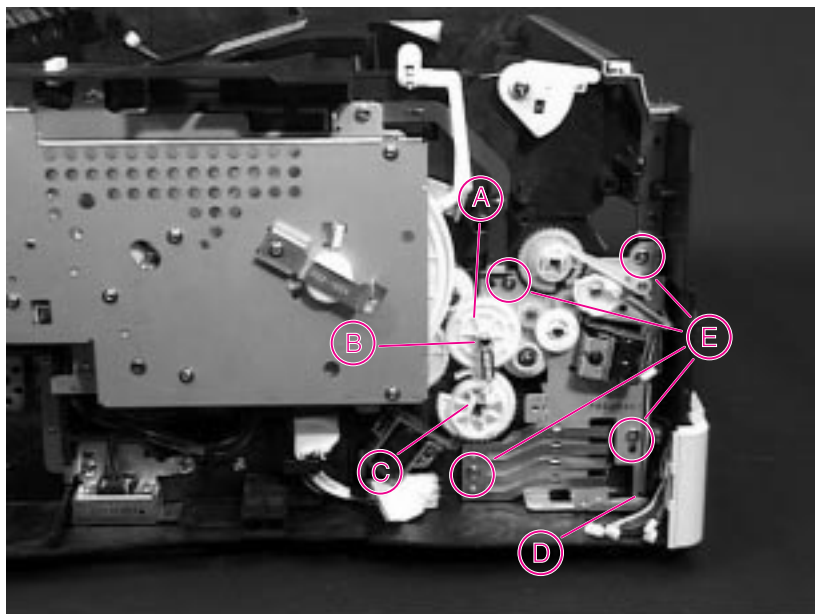

Figure 6-29 Pickup Gear Assembly (left side view of printer - Main Gear Assembly has not been removed)
- 2 Remove the four self-tapping screws from the Gear Assembly. Figure 6-29 shows the Assembly and the location of the screws.
- 3 Release the small spring (B) on the gear.
- 2 Remove the Paper Feed Roller Clutch (C) located on the left side of the Paper Feed Roller Assembly, below the Registration Assembly Clutch. Remove the E-Clip on the clutch, and slide the clutch off the shaft. If necessary, free the cable from the retaining clip on the inside of the chassis, behind the Left Corner Cover. See Figure 6-29 on page 6-36.